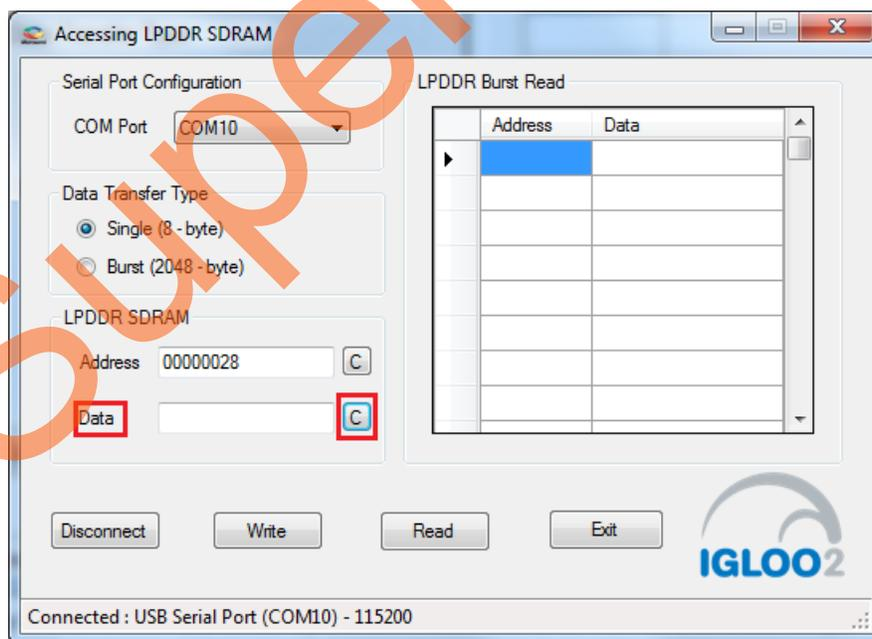

Figure 22 • Clear the Data Field
- Press **C** to clear the data present in the **Data** field. Figure 22 highlights the Clear button, **C**.